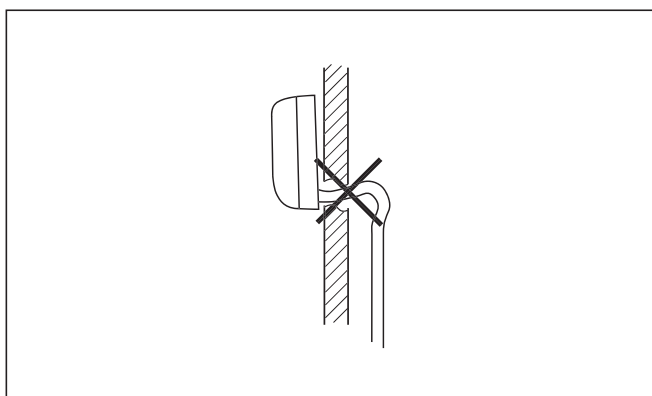

Fig. 9.2 Avoid rising bends.
- Avoid installing the condensed water pipe with a rising bend (see Figure 9.2).